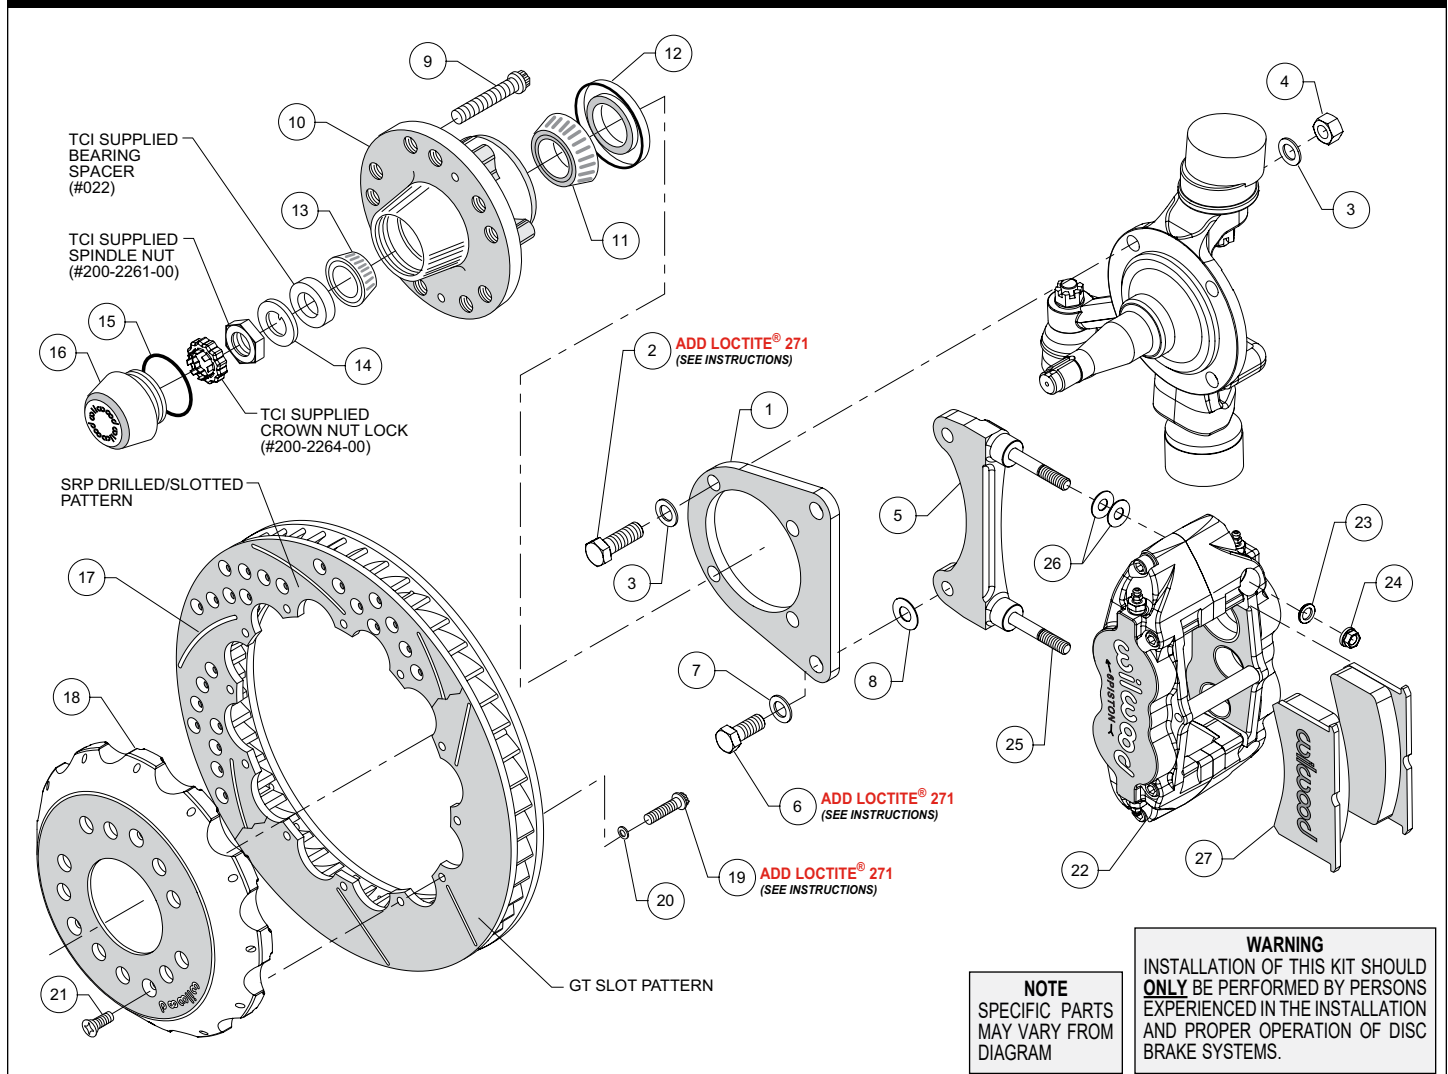
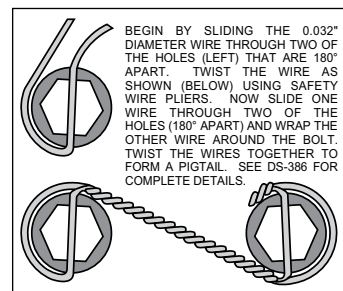

Figure 1. Typical Installation Configuration
Figure 3. Safety Wire Diagram
NOTE: Numbers in parenthesis refer to the parts list and Figure 1 on the preceding pages.
- Orient the flat bracket (1) as shown in Figure 1, and Photo 1, and install using bolts (2), washers (3), and nuts (4). **NOTE:** The two lower mount bolts thread directly into the steering arm. Temporarily tighten the mounting bolts. **NOTE:** The bracket must fit squarely against the spindle face. Inspect for interference from casting irregularities, machining ridges, burrs, etc. After the bracket alignment has been checked, remove the bracket mounting bolts (or nuts) one at a time and apply red *Loctite*® 271 to the threads. Torque bolts to 77 ft-lbs.
- The radial mount caliper bracket (5) should initially be installed with clean, dry threads on the mounting bolts. Orient the bracket as shown in Figure 1, and Photo 2, and install using bolts (6), and washers (7). Initially place one .029" thick shim (8) on each bolt between the flat bracket (1) and radial mount caliper bracket (5), Figure 1. Temporarily tighten the mounting bolts. Later, after the caliper alignment has been checked, the mount bolts will be secured using red *Loctite*® 271.
- Install wheel studs (9) into the hub (10), Photo 3. Torque to 77 ft-lb. **NOTE:** There are two five lug patterns in the hub (5 x 4.50 and 5 x 4.75). Ensure the correct hub stud pattern is being used to fit the wheel application.
- Pack the large inner bearing cone (11) with high temperature disc brake bearing grease (available from your local auto parts store) and install into the backside of the hub (10), Photo 4.
- Install the grease seal (12) by pressing into the backside of the hub (10), flush with the end of the hub, Photo 4.
- Pack the small outer bearing cone (13) with high temperature disc brake bearing grease and install into hub (10), Photo 5. Slide the hub assembly onto the spindle. Install TCI supplied bearing spacer (#022). Secure using spindle washer (14) and TCI supplied spindle nut (#200-2261-00). Bearing adjustment: Tighten the nut while turning the hub. When there is a slight bind on the bearings, they are seated correctly. Back the nut off about 1/6 to 1/4 of a turn, or sufficiently to allow .001" to .007" end play. **WARNING:** Failure to back off adjusting nut could cause bearing to run hot and be damaged, which could cause the wheel to lock or come off. Install TCI supplied crown nut lock (#200-2264-00) and a new cotter pin (not included).
- Orient the rotor (17) and the hat (18) as shown in Figure 1 and Photo 7. Attach rotor to hat using bolts (19) and washers (20). Apply red *Loctite*® 271 to the bolt threads and torque to 155 in-lb using a criss-cross pattern. For an added measure of security, the bolts may be safety wired using standard 0.032 inch diameter stainless steel safety wire as shown in Figure 3. Please refer to Wilwood's data sheet DS-386 (available at www.wilwood.com/Pdf/DataSheets/ds386.pdf) for complete safety wire installation instructions.
- Slide the hat/rotor (17/18) onto the hub (10) taking care to align the small countersunk holes in the hat with the small threaded holes in the hub. **NOTE:** The hat must fit flush against the hub face or excessive rotor run out may result. Install three flat head screws (21) through the small holes in the hat (18), Photo 8, and torque to 85 in-lb.
- NOTE:** This kit contains distinct right and left hand calipers that must be mounted in a specific direction, as described below. Initially place two .035" thick shims (26) on each stud (25) between the caliper and the bracket, as shown in Figure 1 and Photo 9. Mount the caliper (22) onto the bracket (5) using lock nuts (24) and washers (23), Figure 1. Ensure that the caliper is mounted so the largest pistons are at the rotor exit end of the caliper, in relation to the direction of rotor rotation. Temporarily tighten the lock nuts and view the rotor through the top opening of the caliper. The rotor should be centered in the caliper, Photo 10. If not, adjust by adding or subtracting shims (8) between the flat bracket and the radial mount bracket. Always use the same amount of shims on each of the two mounting bolts. Once the caliper alignment is correct, remove the radial mount bracket bolts one at a time, apply red *Loctite*® 271 to the threads, and torque to 77 ft-lb.